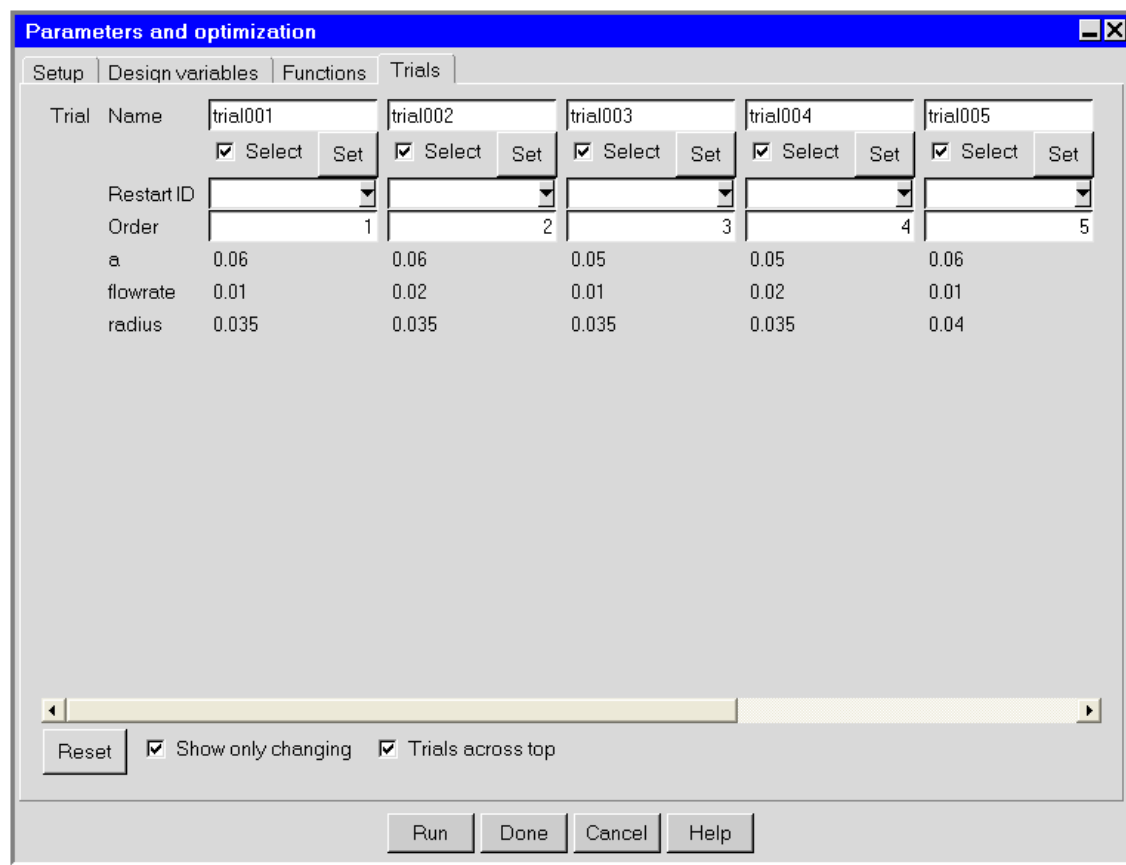
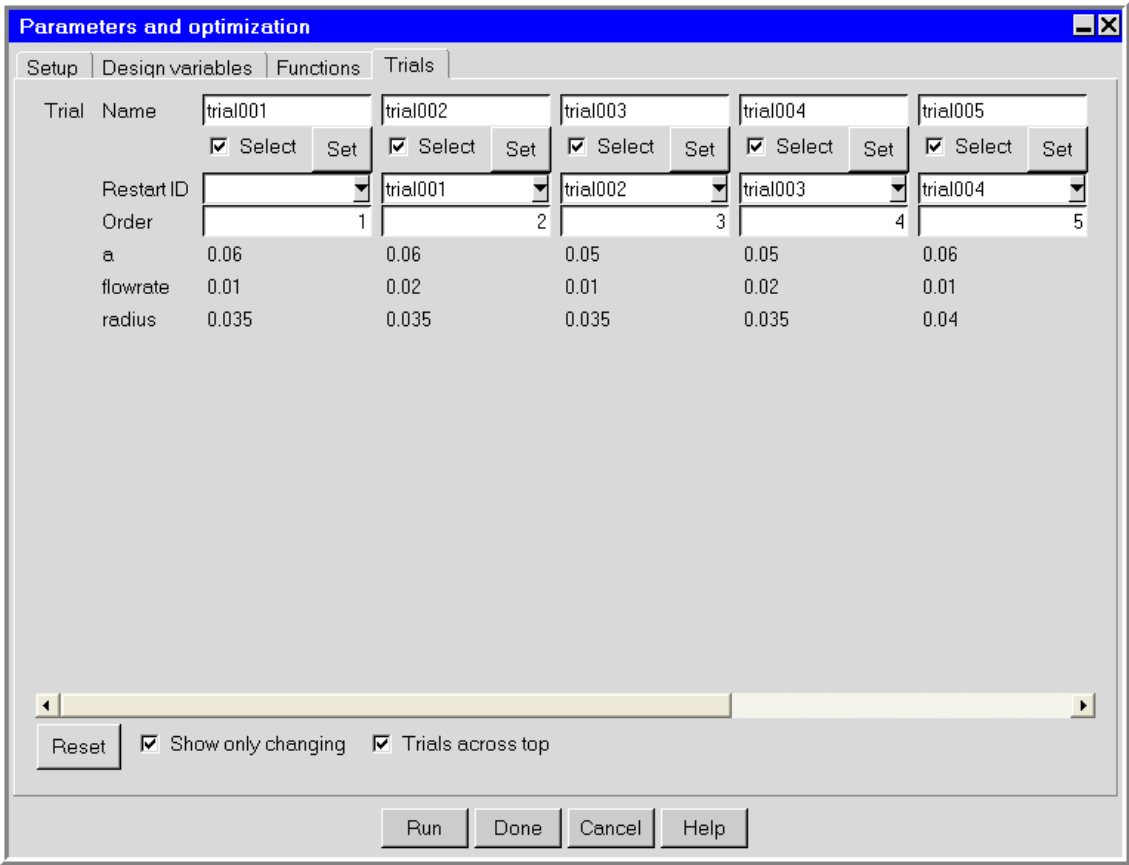

Figure 24.7.1: The Parameters and optimization Panel (Trials Tab)
Figure 24.7.2: The Parameters and optimization Panel Displaying Restart ID Options (Trials Tab)
Parameters in Airpak are used to define the trial calculations that you want to perform for your model. Each trial represents a combination of parameter values. Airpak calculates possible combinations from the list of parameters specified in the Design variables tab of the Parameters and optimization panel and lists them in the Trials tab of the panel (Figure 24.7.1). Alternatively, you can select Define trials in the Solve menu.
Select the trials that you want to run from the list of possible trials in the **Trials** tab of the **Parameters and optimization** panel (Figure 24.7.1). Turn the **Select** option on or off for a trial in the list to toggle its selection state. Click on **Set** above a trial to make it the first one to be run by **Airpak**. Note that as you click **Set** for a particular trial, **Airpak** will update the graphics window to reflect the geometry that is defined by the values of the parameters used in that trial. This allows you to inspect the effect of changes to the geometry of objects in the model corresponding to each trial. To further change the order in which the trials are run, you can enter the appropriate values in the text boxes next to **Order**.
To speed up convergence of subsequent trials, you can run any trial (except for the first one) using the solution from a previous trial as an initial condition. To do so, select the **Trial Name** corresponding to the solution you want to use for restart from the **Restart ID** drop-down list of the new trial (e.g., Figure 24.7.2).
Airpak will set the values of the parameters to those specified for the trial selected in the **Trials** tab of the **Parameters and optimization** panel (Figure 24.7.1), and then perform the calculation. When the calculation is finished, Airpak will save the results of the simulation and generate a function report (if requested) and display it on the screen. It will also generate a summary report (if requested). You can then perform postprocessing in the usual way (as described in Chapter 28) and you can view the results of the reports that Airpak has generated, as described in Section 29.5.
2. Select the trials to be run in the **Trials** tab of the **Parameters and optimization** panel (Figure 24.7.1), as described in Section 24.7.1. At this point, you may want to toggle the naming scheme of the trials, by clicking on **Reset**. The **Trial naming** dialog will open, and you will be able to choose between **Numbered** (the default naming scheme, see, for example Figure 24.7.2), or **Value**, a naming scheme that uses values of the parameters in each trial name.
If you entered 1 next to **Num concurrent** in the **Solve** panel, **Airpak** will set the values of the parameters to those specified for the first trial selected in the **Trials** tab of the **Parameters and optimization** panel (Figure 24.7.1), and then start the calculation, using a solution ID of `trial000`. When the calculation is finished, **Airpak** will save the results of the simulation and generate a report or a function value (if requested). **Airpak** will then set the values of the parameters to those specified for the second trial in the **Trials** tab of the **Parameters and optimization** panel, and start a new calculation. When this calculation is complete, **Airpak** will save the results of the simulation using a new solution ID (`trial001`), and generate a report. This process of setting the values of the parameters, performing the calculation, saving the results, and generating reports is repeated until all the selected trials have been completed.
If you have specified that **Airpak** should run two or more calculations simultaneously, **Airpak** will set the values of the parameters to those specified for the first trial selected in the **Trials** tab of the **Parameters and optimization** panel (Figure 24.7.1), and then start the calculation, using a solution ID of `trial000`, **Airpak** will then set the values of the parameters to those specified for the second trial selected in the **Trials** tab of the **Parameters and optimization** panel, and start a second calculation with a new solution ID (`trial001`), and so on. When the first calculation is finished, **Airpak** will save the results of the simulation and generate a report (if requested). **Airpak** will then set the values of the parameters to those specified for the next trial selected in the **Trials** tab of the **Parameters and optimization** panel, and start a new calculation. When the second calculation is complete, **Airpak** will save the results of the simulation, generate a report (if requested), and start the next trial, and so on. This process of setting the values of the parameters, performing the calculation, saving the results, and generating reports is repeated until all the selected trials have been completed.